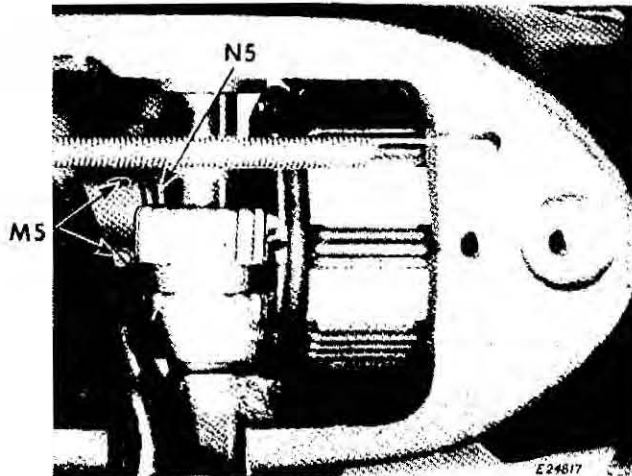

Fig. 84. Adjusting Needle
To time the pendulum movement of the needle bar, loosen two set screws **M5, Fig. 84** in the worm gear **N5, Fig. 84** in the gear box on top of the machine and free gear **N5** from arm shaft.
toward the operator or away from the operator while keeping gear **N5** in place by holding a screwdriver over one of two set screws **M5, Fig. 84**. When a desired setting is obtained, tighten one of the set screws **M5** and recheck pendulum movement. If results are satisfactory, securely tighten both screws.
9. If needle is not at correct height when the click is heard, loosen set screws **M5, Fig. 84** in worm gear **N5** on arm shaft and slide gear to right or left to correct the condition.
Release FASHION disc follower frame. If the FASHION disc follower frame stud seats in the square slot of the gauge, no adjustment of the worm gear **N5**, **Fig. 84** on arm shaft is necessary.
4. Loosen two screws **M5**, **Fig. 84** which hold driving worm gear to arm shaft.
7. Tighten securely one of two set screws, **M5**, **Fig. 84** on arm shaft driving worm gear.
9. Rotate arm shaft with hand wheel and securely tighten second screw **M5**, **Fig. 84** on gear **N5**.